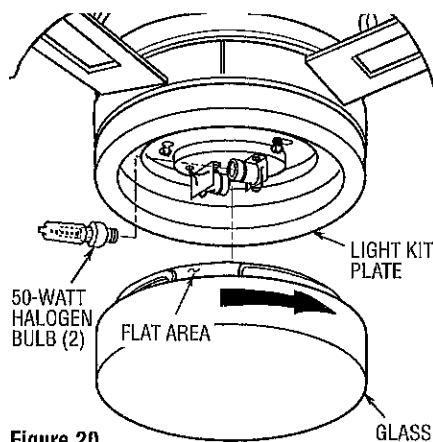

Figure 20
- ☐ 7. Screw the two 50-watt mini-candelabra base halogen bulbs (supplied) into the light kit plate sockets (Figure 20). Do not touch the glass bulb; use the porcelain base to screw in the bulb, or wear soft gloves.
- ☐ 8. Place the lower glass into the light fitter, aligning the three flat areas on the top flange of the lower glass with the three pins on the inside of the fitter (Figure 20). Then turn the lower glass clockwise until it stops turning.